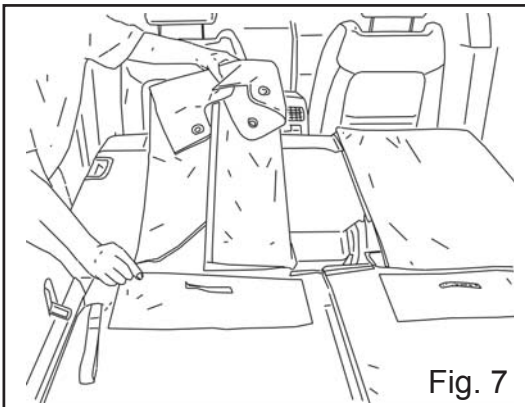
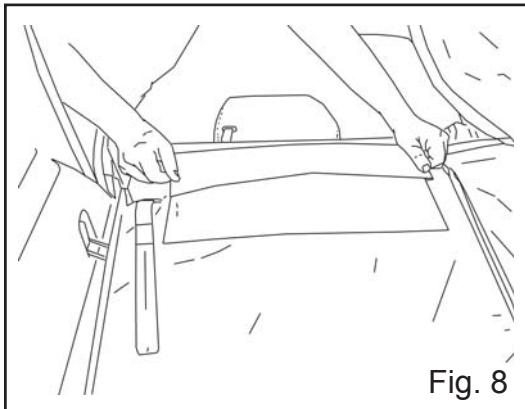

Fig. 7
Fig. 8
- 6 If 3rd row seats are to be used, fold 2nd row covers and place in the attached pockets. (Fig. 7 and Fig. 8)